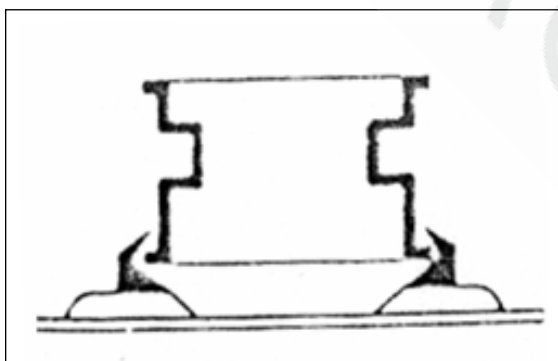
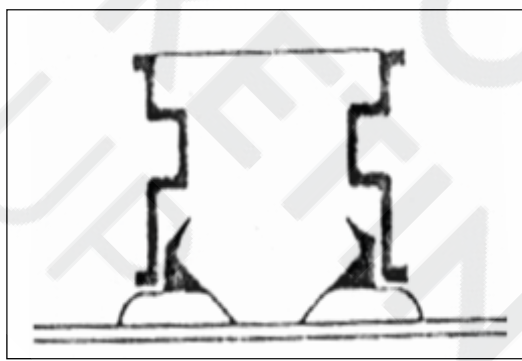

FIG20
FIG21
4.1.2 Place the tire between then bead breaking blade and tire pressing runner clog. Position the bead breaking blade beside the lateral side of the tire (FIG19).Then step down the pedal to detach the rim from the tire(fig2-10). Repeat the same operation on the other parts of the tire to make the tire completely detached from the rim. To detach the lip smoothly, you can use the brush to spread the lubricant or thick soap liquid between the lip and rim. Place the wheel with the tire detached from the rim on the turntable and step the clamp pedal(fig2-9) to clamp the rim. You can select the outer clamp (fig20) and inner clamp (fig21) to clamp the wheel according to the different rim.